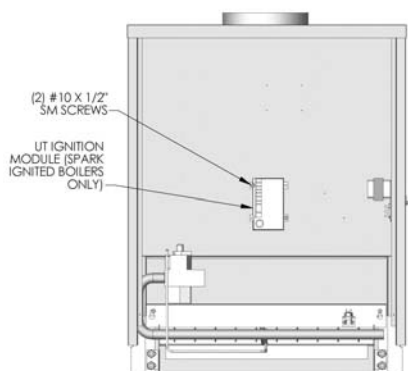

Figure 7.4
- Mount the ignition module, if required (spark ignited units only), as shown in Figure 7.4.